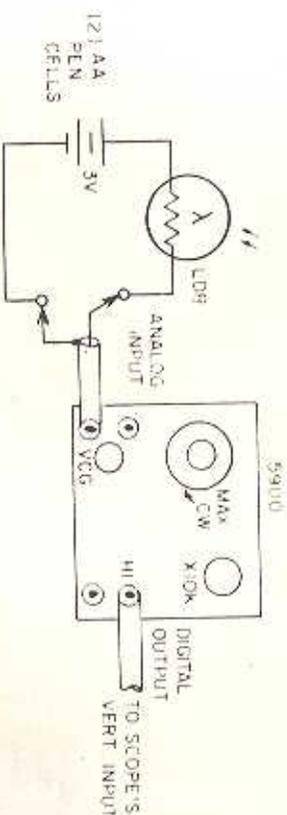

Fig. 22 To display optical A/D conversion
1. Connect equipment as shown in Fig. 22.